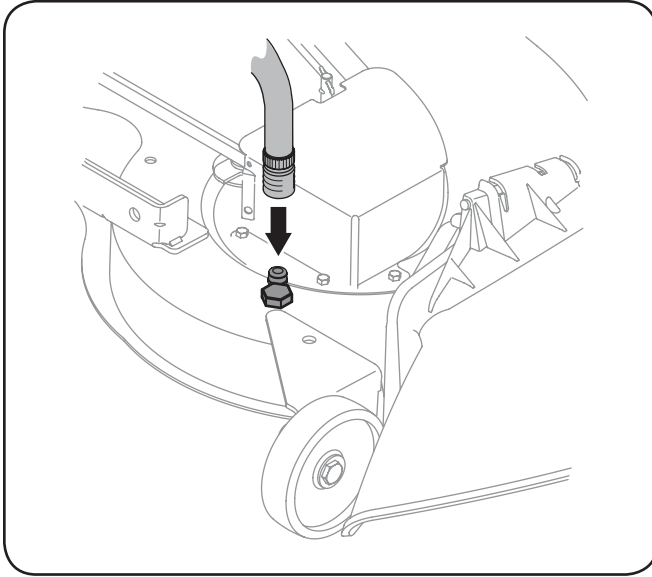

Figure 6-2
4. Attach the hose coupler to the water port on your deck's surface. See Fig. 6-2.